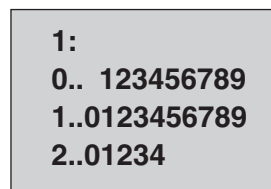

Fig. 9
8. Once all timers have been set to the desired time press ESC twice to return to the Input display screen. See figure 9.